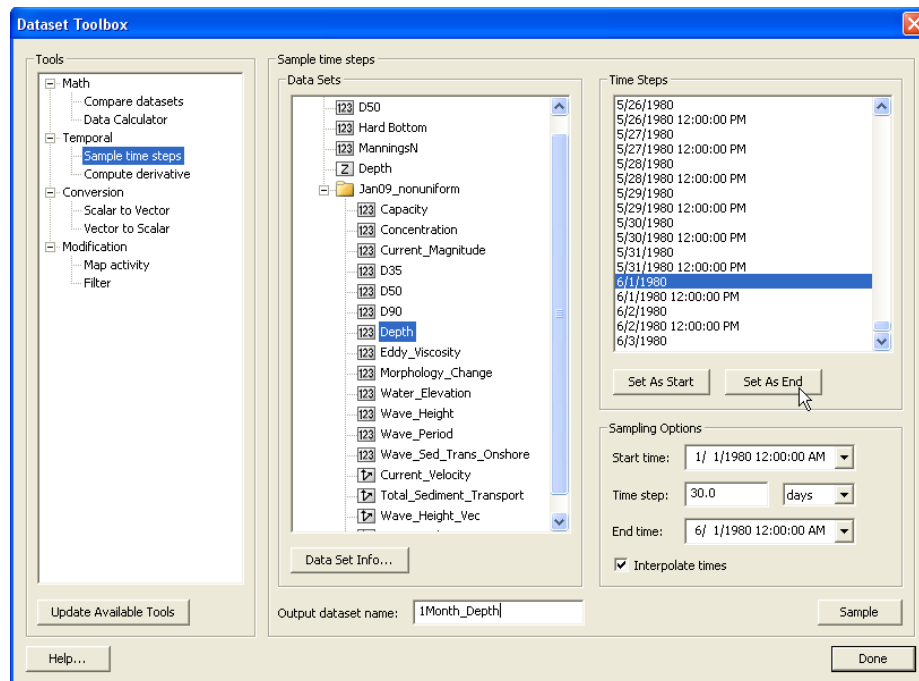

Figure 8.4.7. Sampling time steps from a solution dataset.
1. To filter the morphology dataset for the time periods of interest, i.e. every month, open the *Data Calculator* and select *Sample time steps* under the *Temporal* section (Figure 8.4.7).